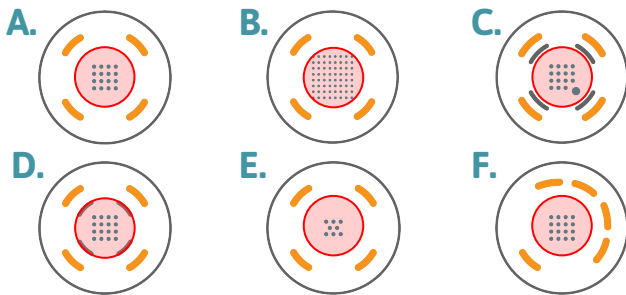

Figure 1: Drop Placement Diagram
1. Place a 5 μ l droplet of 0.1 % PEI solution over the recording electrode area of each well in the MEA plate. See Figure 1 on page 2 for appropriate drop placement.
9. Place a 5 μ l droplet of DRG Neuron suspension over the recording electrode area of each well of the MEA. See Figure 1 on page 2 for appropriate drop placement.